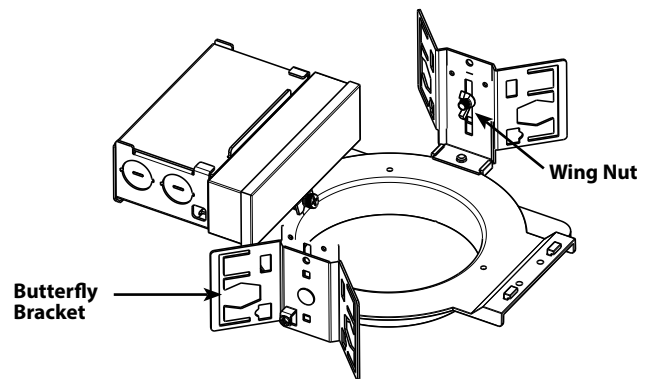

Fig: 2
4. The fixture can be adjusted to different heights above the ceiling surface. For height adjustment, loosen the **Wing Nut** and slide the **Butterfly Bracket**. If necessary remove the **Wing Nut** and insert in screw in different hole provided on the **Butterfly Bracket**. (Fig: 2)